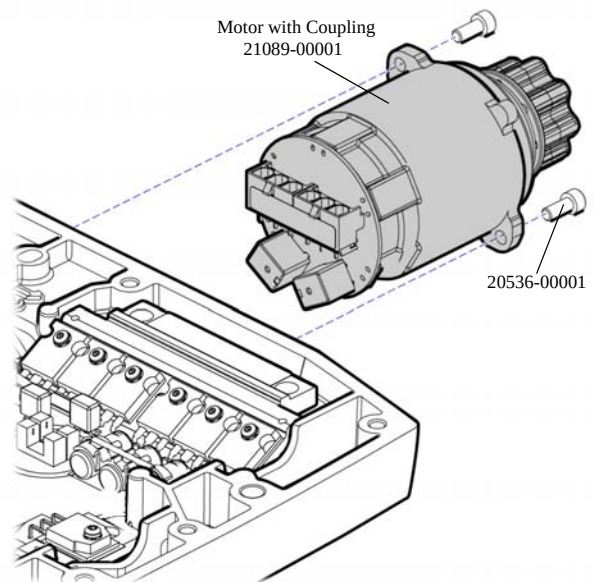

Figure 13-3: Remove Motor
7. Use T-25 6-lobe wrench to remove (2) SHCS, M5 x 0.8 x 12, 6-lobe screws that attach motor to chassis. See Figure 13-3.